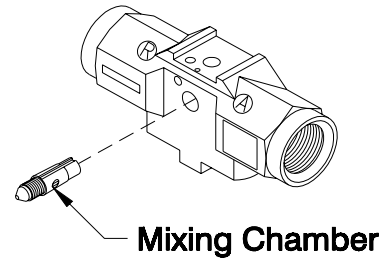

Figure 17. Mixing Chamber
- a) Insert the chamber into the gun block, using care to align the keyway in the chamber with the pin protruding from the top of the hole in the block (See Figure 17).